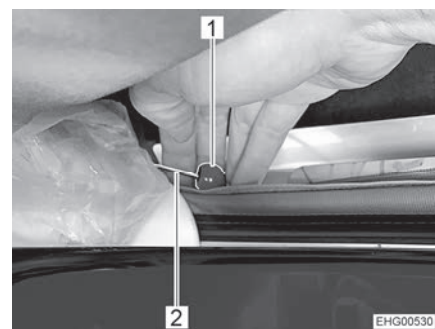

Fig. 90 Emergency release
- Pull the red button (Fig. 90,1) of the cable control (Fig. 90,2) on both sides.